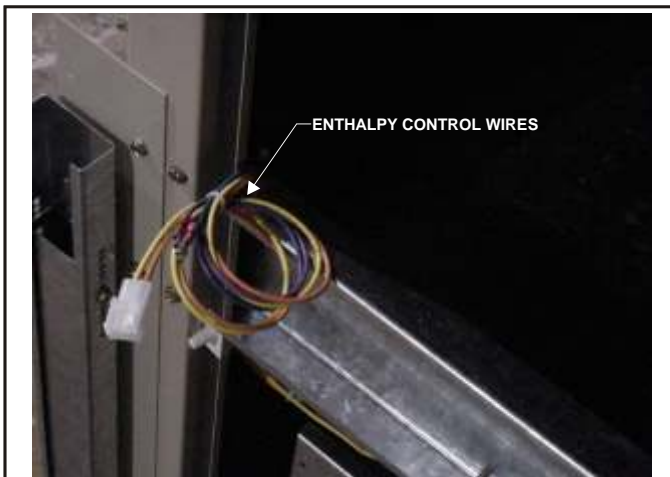
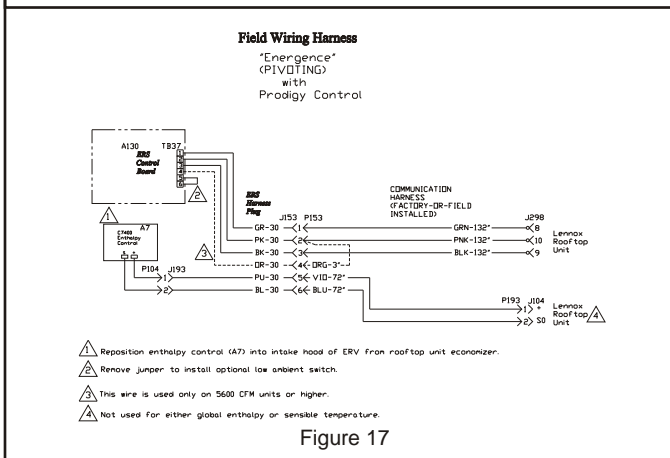

Figure 16
Figure 17
14. If the A7 enthalpy sensor was retained, locate the blue and purple wire harness on the top deck. Remove the intake air access panel and route blue and purple harness to the A7 enthalpy sensor harness and connect purple to SO+ and blue to SO. Secure excess wiring. **See Figure 16 and Figure 17** for field wiring diagram.